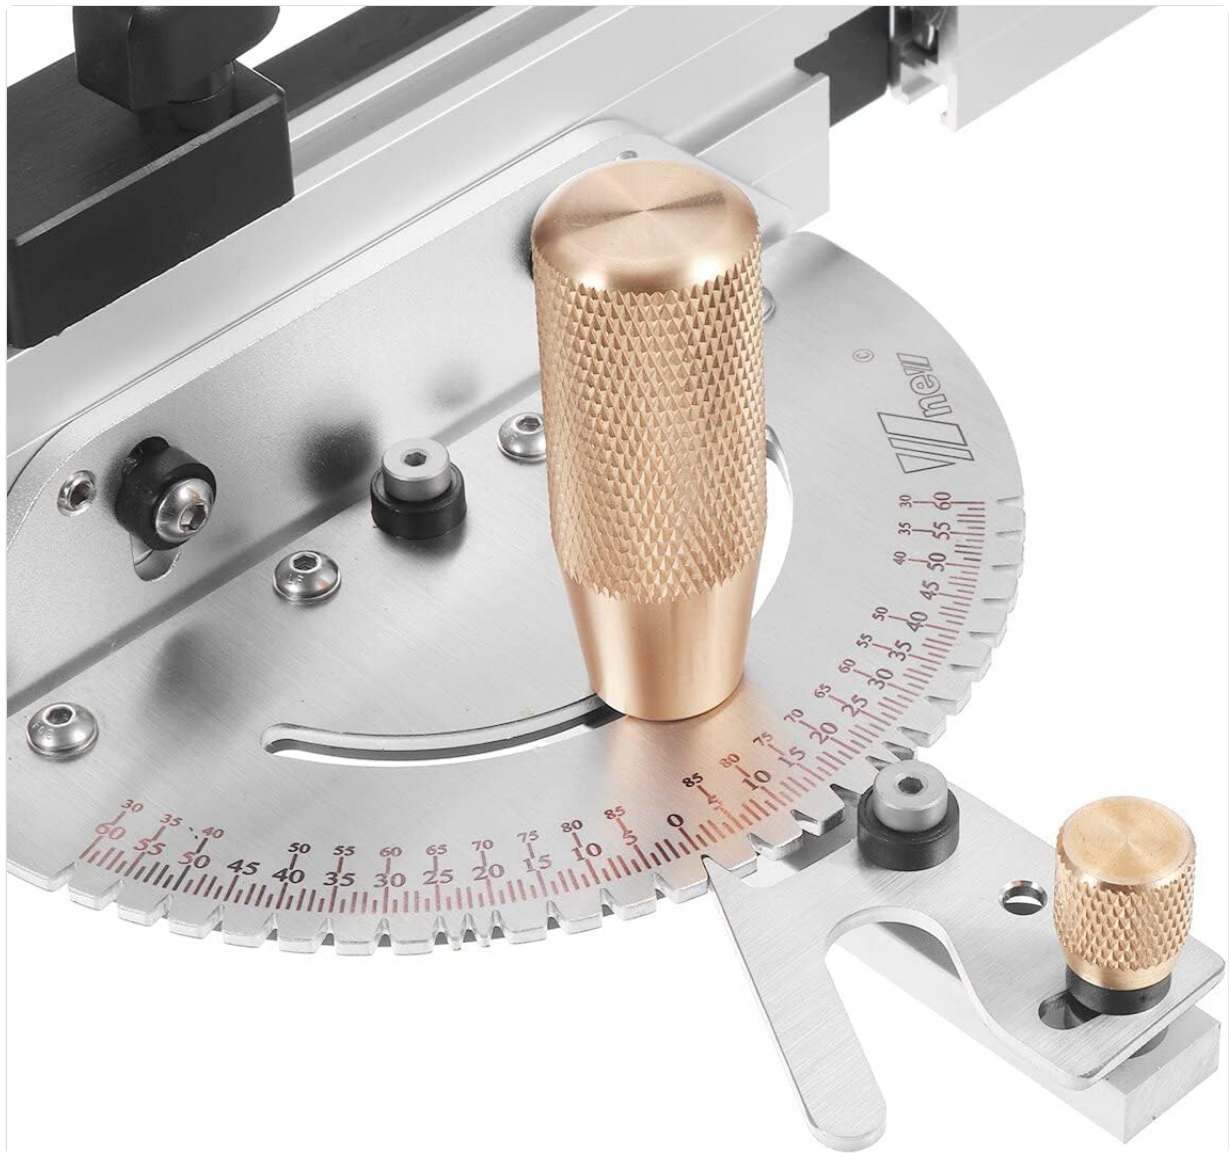

Figure 2: Close-up of the precision angle scale and the brass handle for angle locking. The scale allows for precise angle adjustments.
1. **Loosen Brass Handle:** Rotate the main brass handle (Figure 2) counter-clockwise to loosen the locking mechanism for angle adjustment.